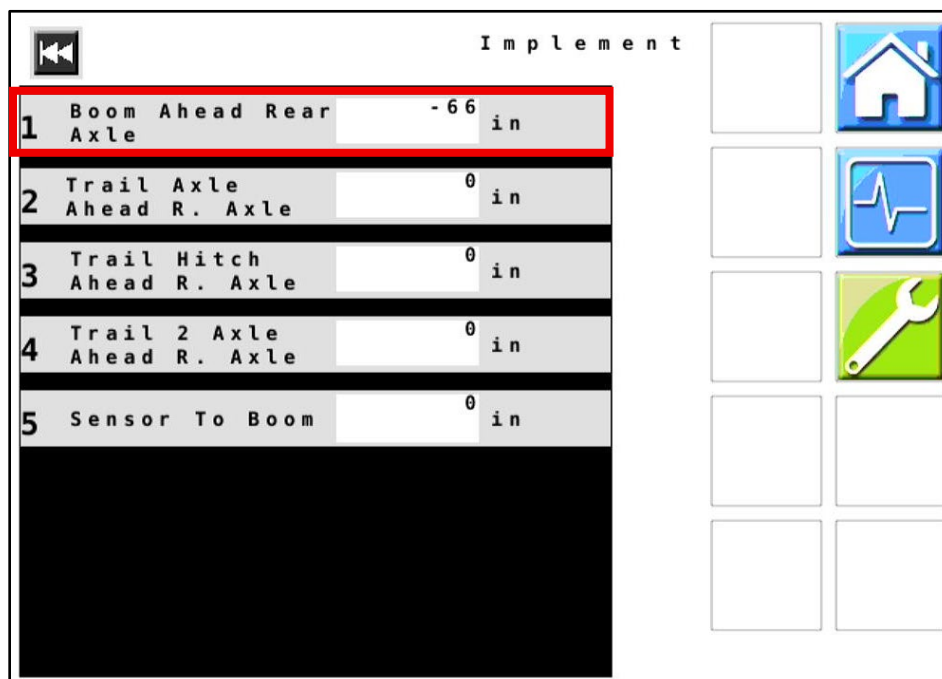

Figure 20 — Implement
40. **Figure 20:** Verify the measurement above for **Boom Ahead Rear Axle**. This measurement is the distance between the rear axle of the sprayer and application point.